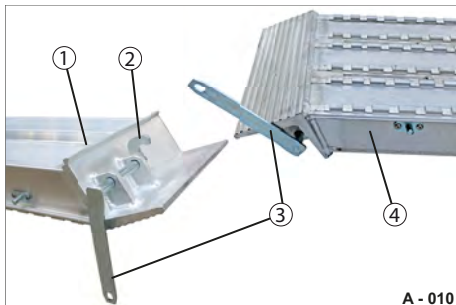
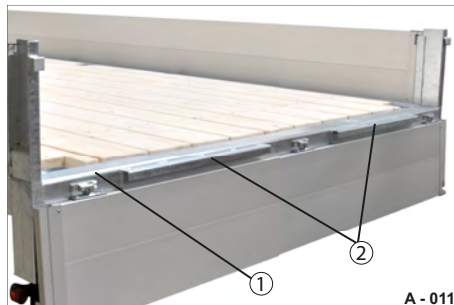

Fig. 14 Locking lever opened
Fig. 15 Chassis loading platform edge
- Check that the locking lever (Fig. 14/3) and securing hook (Fig. 14/2) are not deformed.
- If necessary, clean the securing rail (Fig. 15/2) and securing hook (Fig. 14/2) to remove all dirt.